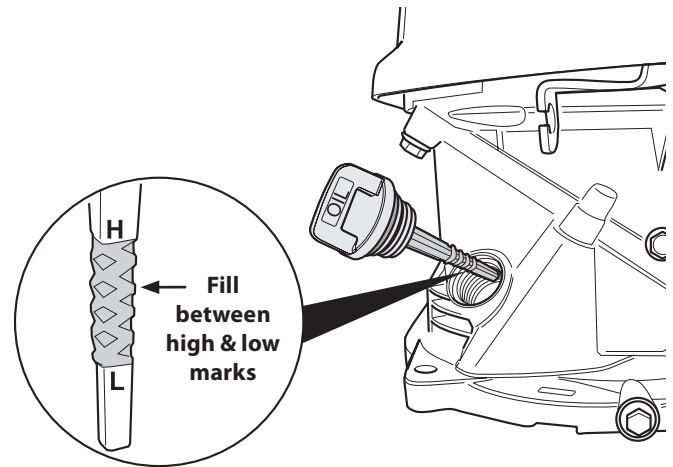

Figure 3-2
1. Remove the oil filler cap and wipe the dipstick clean. See Figure 3-2.
3. Remove dipstick. If the level is low, slowly add oil until oil level registers between high (H) and low (L). See Figure 3-2 inset.